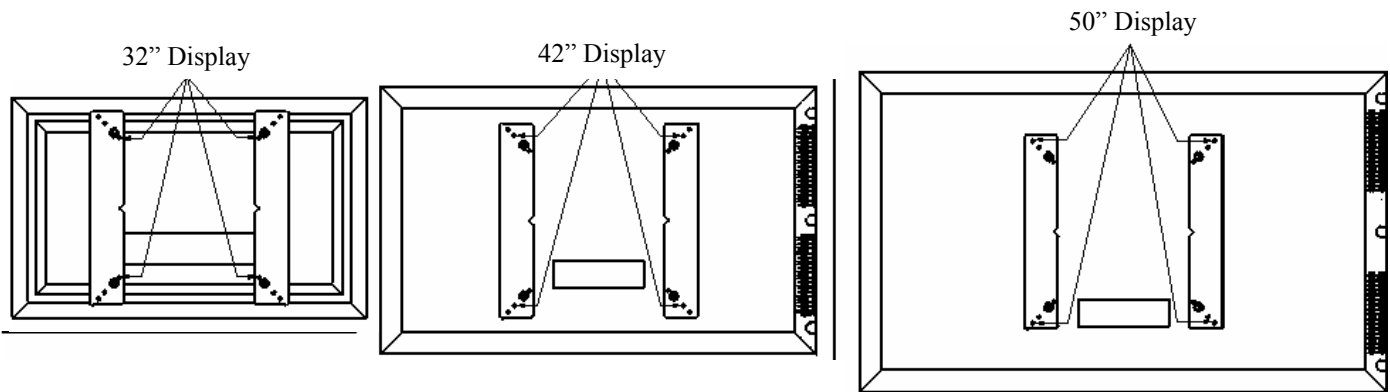

Figure 6. Bracket Attachment Location
4. Attach mounting bracket to the display (see Figure 6), as follows: